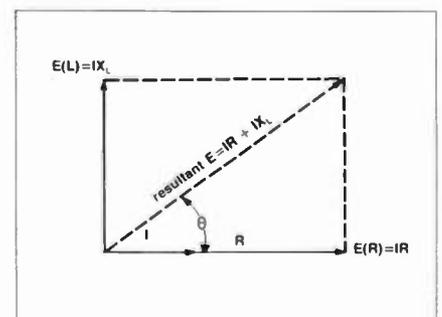

Fig. 6. Vector sum of current/voltage IR drops in the RL circuit of Fig. 5. Measured phase angle  $\theta$  is  $36^\circ$  between current and final voltage.
In an inductor, recall that voltage leads current by 90 degrees, because inductors always oppose changes in current with a counter emf. So, if we were to draw a vector diagram of this condition, voltage would be at right angles to current, and current would be in phase with the series resistor. The voltage, then would be the drop across the inductance (and resistance), and the resultant and its phase angle between current and voltage in the RL circuit would look like it does in Fig. 6. The  $X_L$  reactance is perpendicular and its voltage is the  $IX_L$  drop across its impedance Z. The horizontal projection shows current in phase with resistance and, again, the current times the resistance (IR) amounts to the voltage along this portion. The total voltage in the circuit, then, is the vector addition of the IR and  $IX_L$  drops, and is the resultant, with phase angle between current and voltage represented by theta,  $\theta$ . So even though  $X_L$  is a 90-degree phase shift in itself, a Z + R circuit can have an entirely different resultant and finish with a phase angle that isn't even half of what a pure inductance by itself would produce.